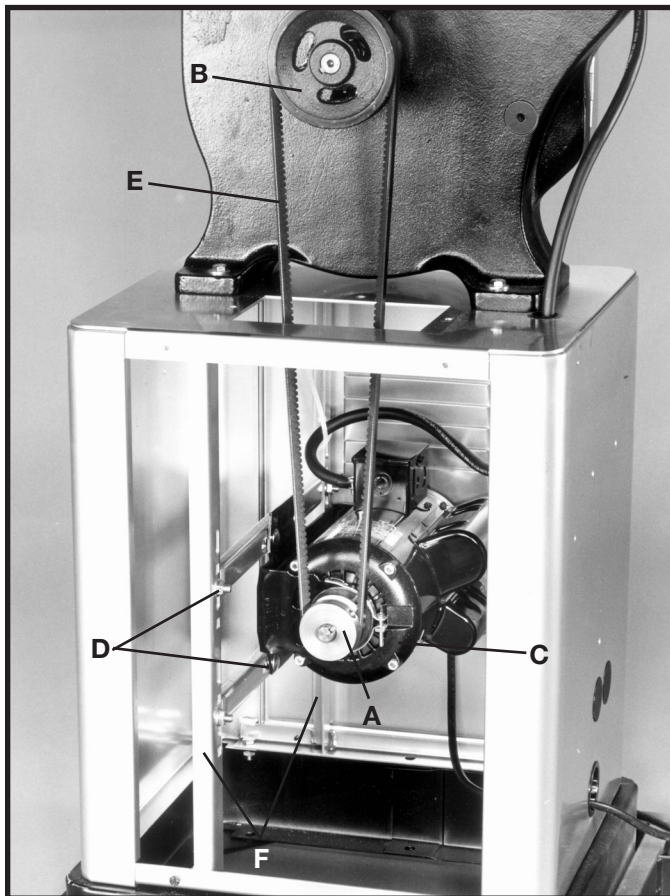

Fig. 7
1. Using a straight edge, align motor pulley (A) Fig. 7, to the driven pulley (B). If necessary, both pulleys can be adjusted inward or outward. The motor (C) can also be adjusted on the motor mounting bars (D).
2. Assemble the V-belt (E) Fig. 7, to pulleys (A) and (B) and adjust the belt tension by raising or lowering the motor (C) on the motor mounting bars (D). If necessary, the motor mounting bars (D) can be repositioned on two vertical posts (F). **NOTE:** Make certain the pulleys are kept in alignment when doing this. Correct belt tension is obtained when there is approximately 1" deflection, using light finger pressure at the centerspan of the pulleys.